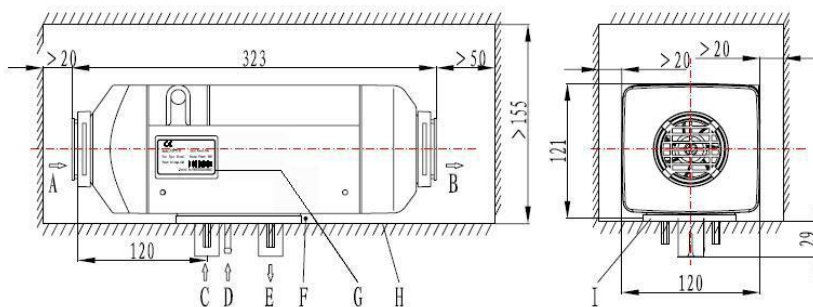

Fig. 8
4.2.2 For convenience of heating air flow and installation, maintenance of the main heater, enough space must be provided for installation. Please refer to the scope of double dot line for the space for installation, as shown in Fig. 8.
Please make sure that there is not any foreign matter in the gap between the bottom surface of the main heater and the installation surface of the vehicle (Fig. 8-F).
4.2.3 Good sealing is necessary between the main heater and the installation surface on the vehicle. A special gasket (as shown in Fig. 8) supplied by the manufacturer must inserted in between during installation. The installation surface must be even enough. Its parts at the installation bases of the main heater shall have unevenness of less than 1mm. After drilling installation holes, evenness must be improved according to this requirement. At installation, please rotate the four M6 nuts, provided by the manufacturer, tight. The torque for tightening shall be 6Nm+1Nm.